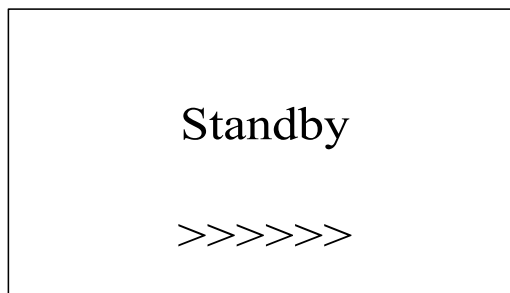

Figure 4-3 Inverter system in standby mode
(3) Standby mode, as shown in Figure 4-3: